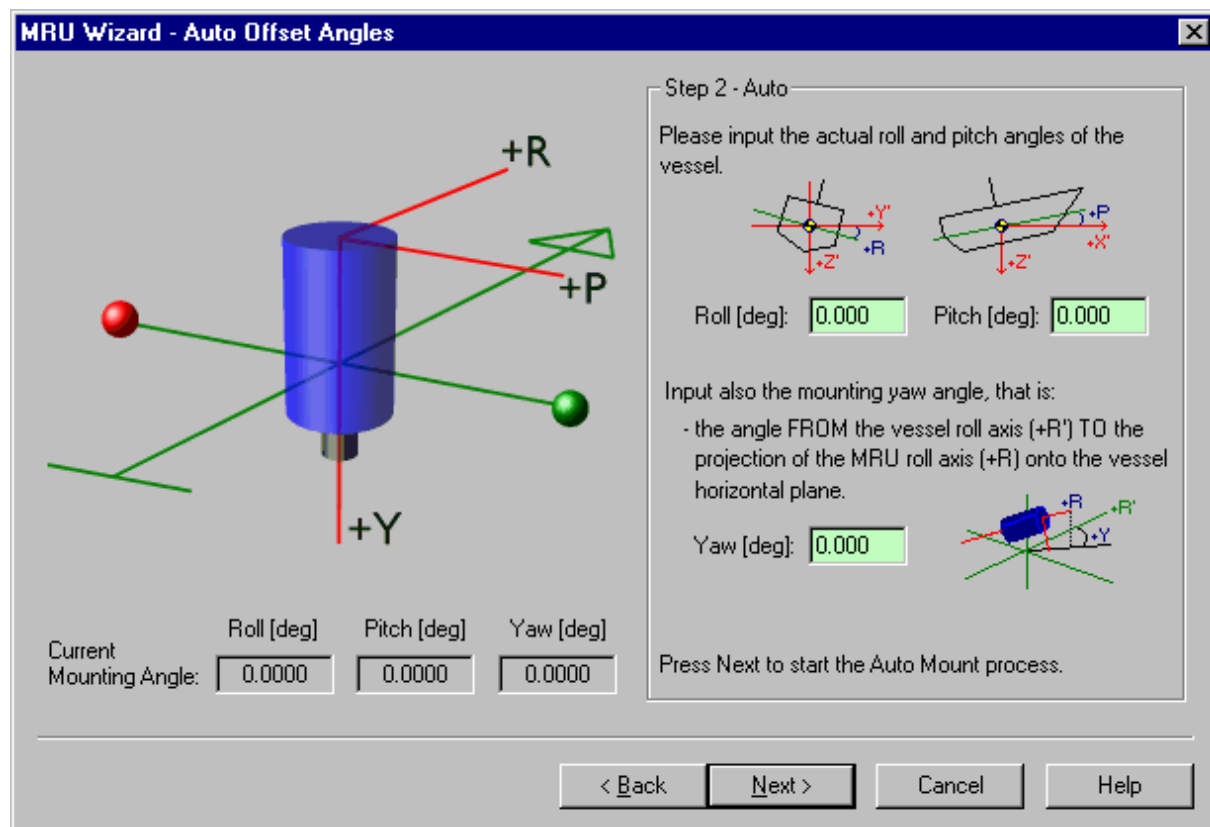

Figure 44 Step 2 of Auto MRU Axis Orientation
- Automatic setup selected in Step 1. Click **Next** to go to the **Step 2 –Auto** window, as shown in Figure 44.